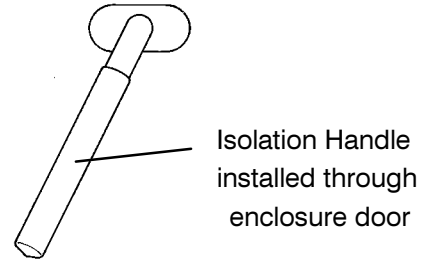
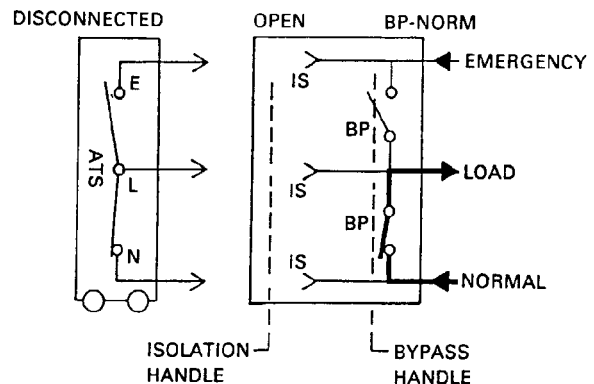

Figure 3-4. Isolation Handle.
Figure 3-5. Isolated (DISCONNECTED) ATS.
2. Isolate the Automatic Transfer Switch as follows. Refer to Figure 3-4 and Figure 3-5.